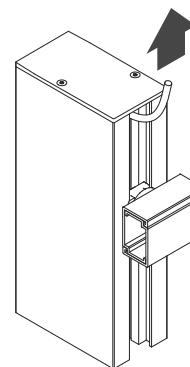

Figure 4a
- a. Install ends caps if specified and ensure wires are positioned to the back of the stick. (Figure 4a)